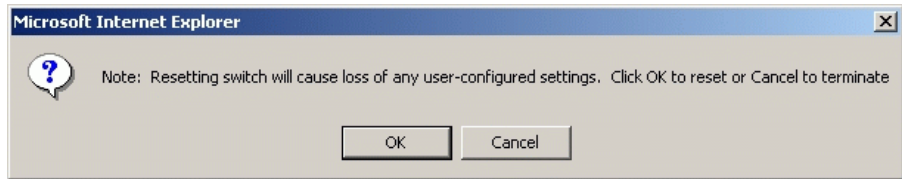

Figure 4-75 Browser-Specific Message Box
5. Click *Reset Configuration*. A browser-specific message box displays (Figure 4-75).